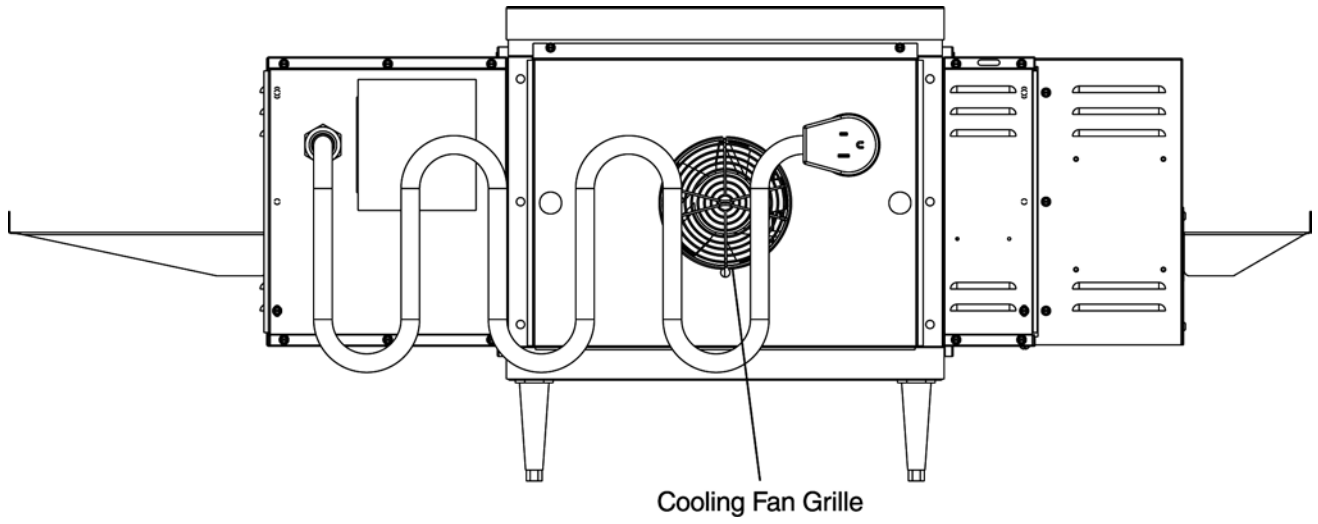

Figure 1-6. Cooling Fan
D. Cooling Fan — See Figure 1-5 and Figure 1-6